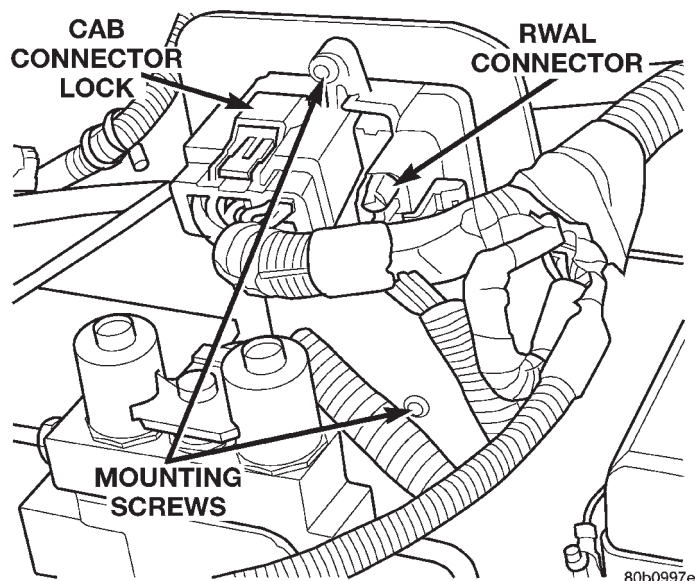

Fig. 8 RWAL Controller
(1) Push the CAB harness connector lock to release the lock and remove the connector (Fig. 8) from the controller.
(2) Remove the RWAL valve harness connector from the controller.
(3) Remove the controller mounting screws and remove the controller from the mounting bracket (Fig. 8).